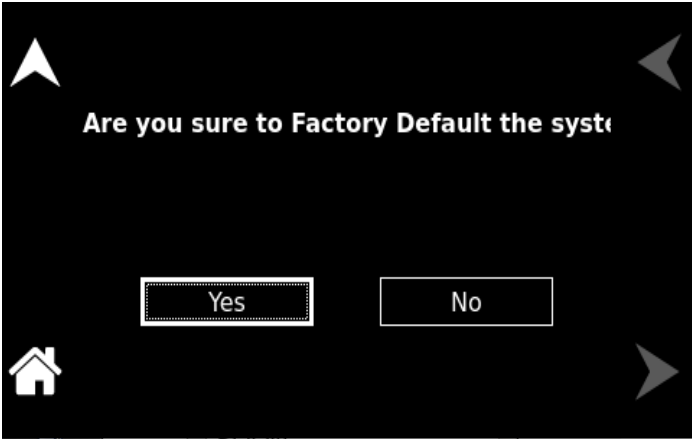

Figure 8-199. Factory Default
**Factory Default** Set the device to its original factory settings, as it was when it left the manufacturer. Refer to Figure 8-199.